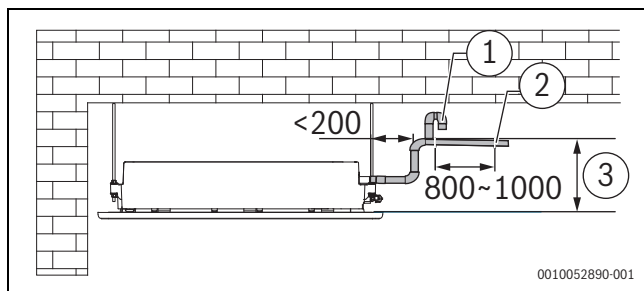
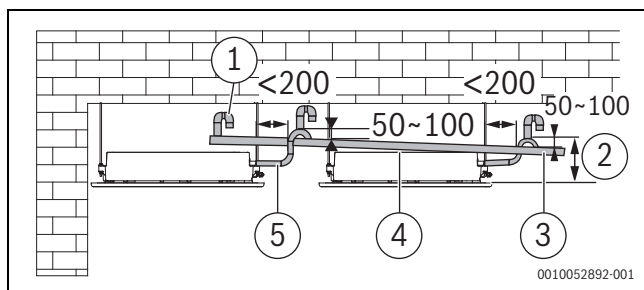

Fig. 34 Installation and distances of water discharge piping with a water pump [mm]
Fig. 35 Installation of water discharge piping of multiple units
11. Install the drainage pipes as shown in figure 34 (with a water pump) and figure 35 (without a water pump). The drainage piping outlet should not be higher than the drainage height, ensuring a downward slope of more than 1/100.